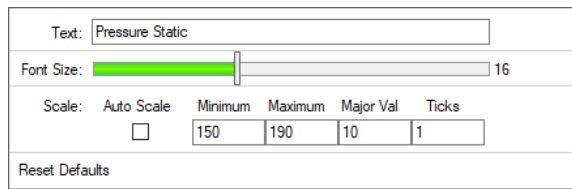

Figure 7: Axis Modification Window opened by right-clicking the y-axis
3. Set the Minimum to 150 bar, the Maximum to 190 bar, and Major Val to 10 (see Figure 7)